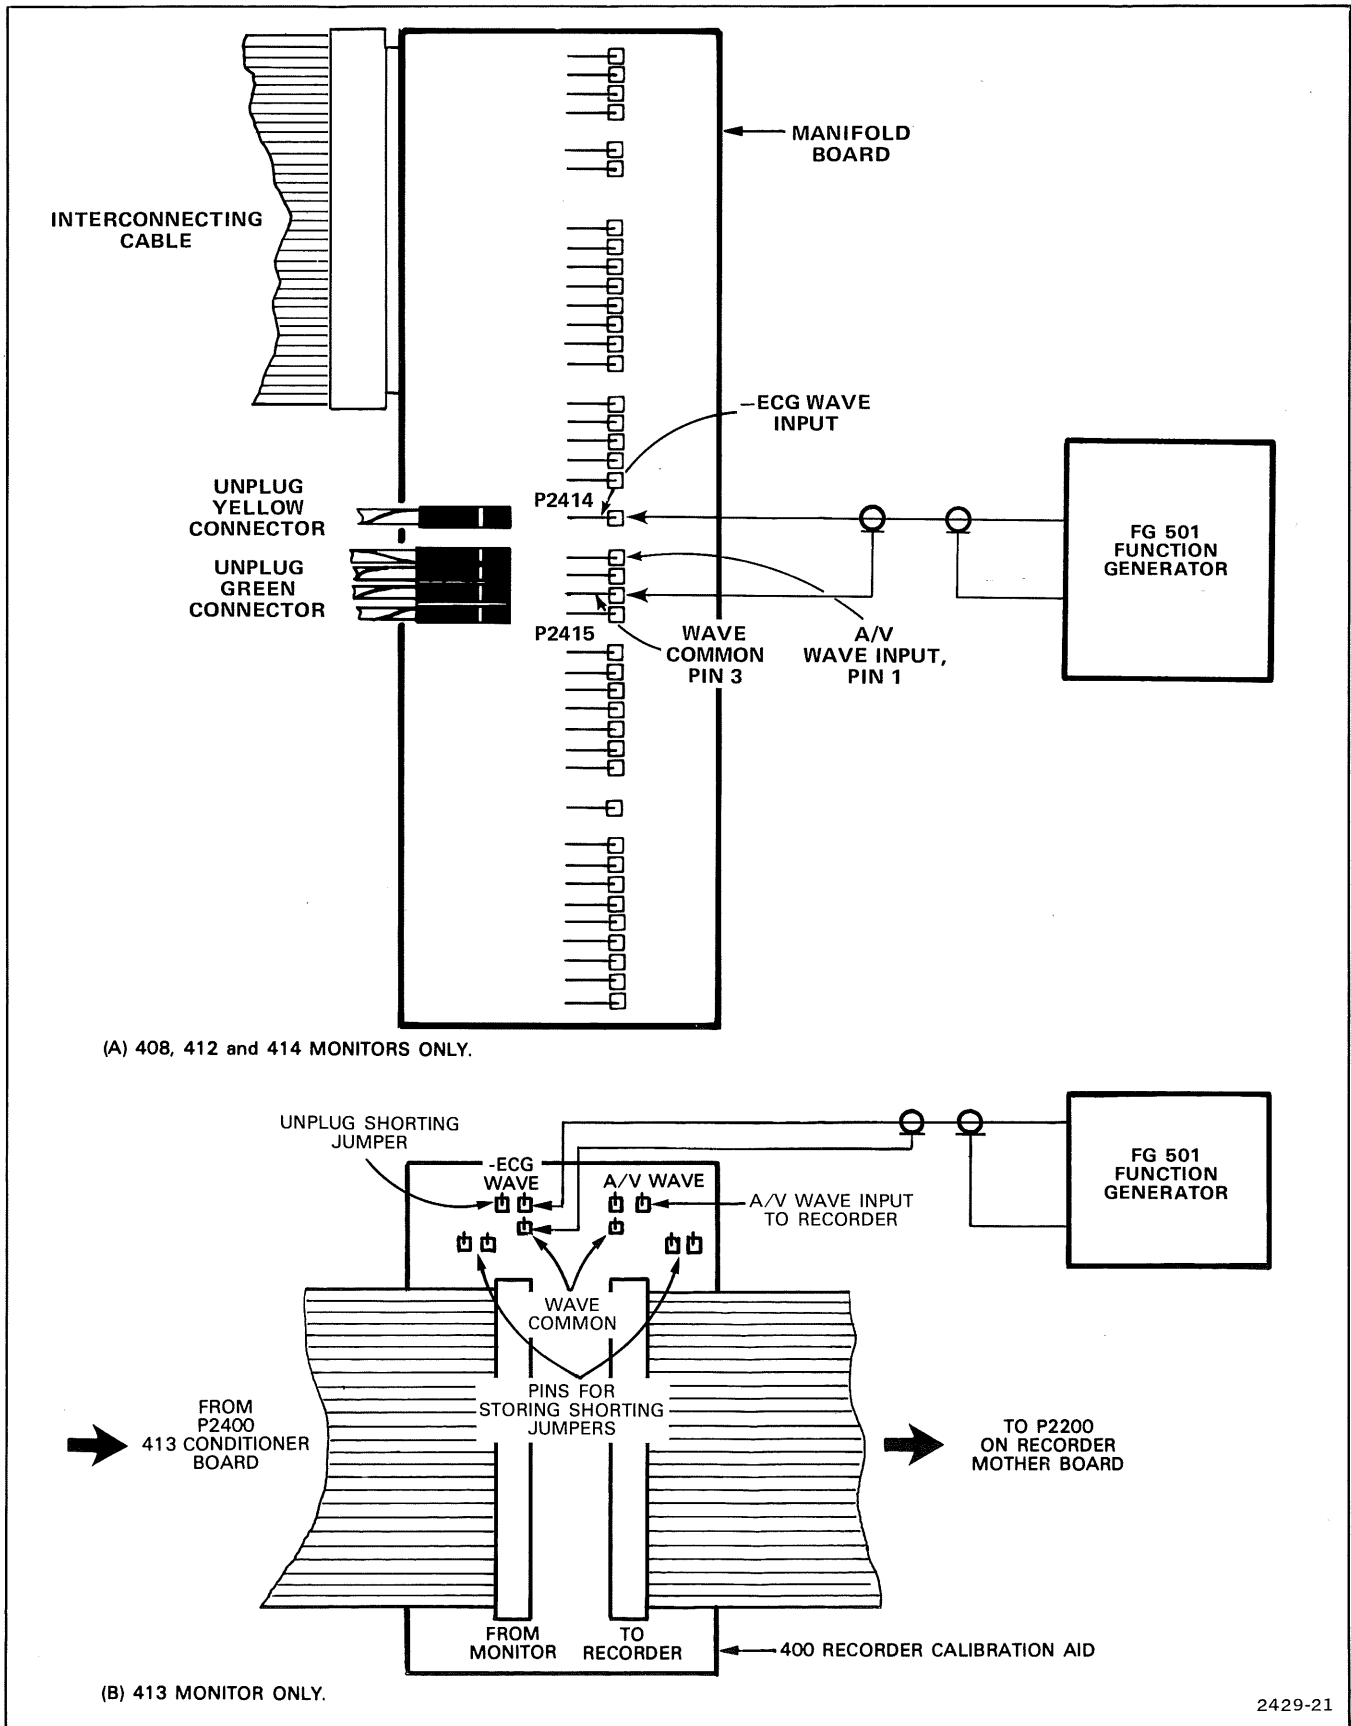

Figure 5-1. Connecting square wave to -ECG wave input.
a. Apply a 3.0 volt peak-to-peak 1 Hz square-wave signal from the Function Generator as follows. See Figure 5-1 for locations of signal inputs.
(1) 408, 412, or 414 Monitor with Standard Recorder:
- b. Short together A/V Wave (P2415-1) to Wave Common (P2415-3) on Manifold board or on Calibration Aid. See Figure 5-1.